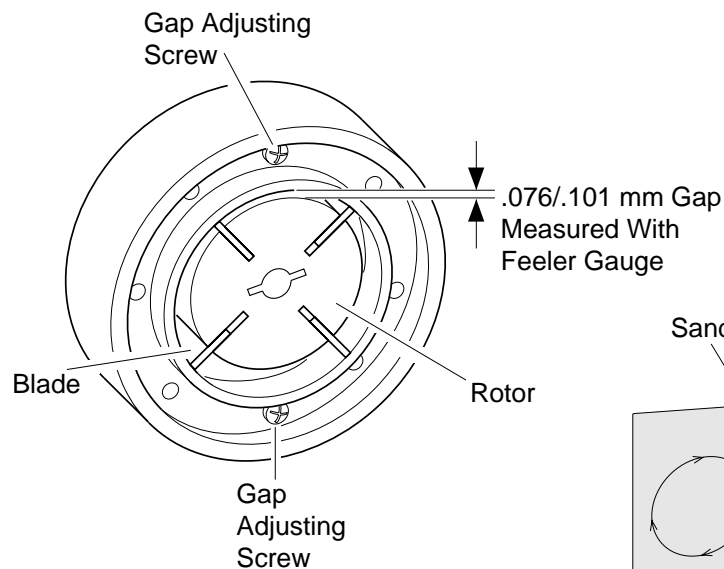

Figure 33 - Gap Adjusting Screw Locations
9. Check gap on rotor. Adjust to .076/.101 mm if needed (see Figure 33).